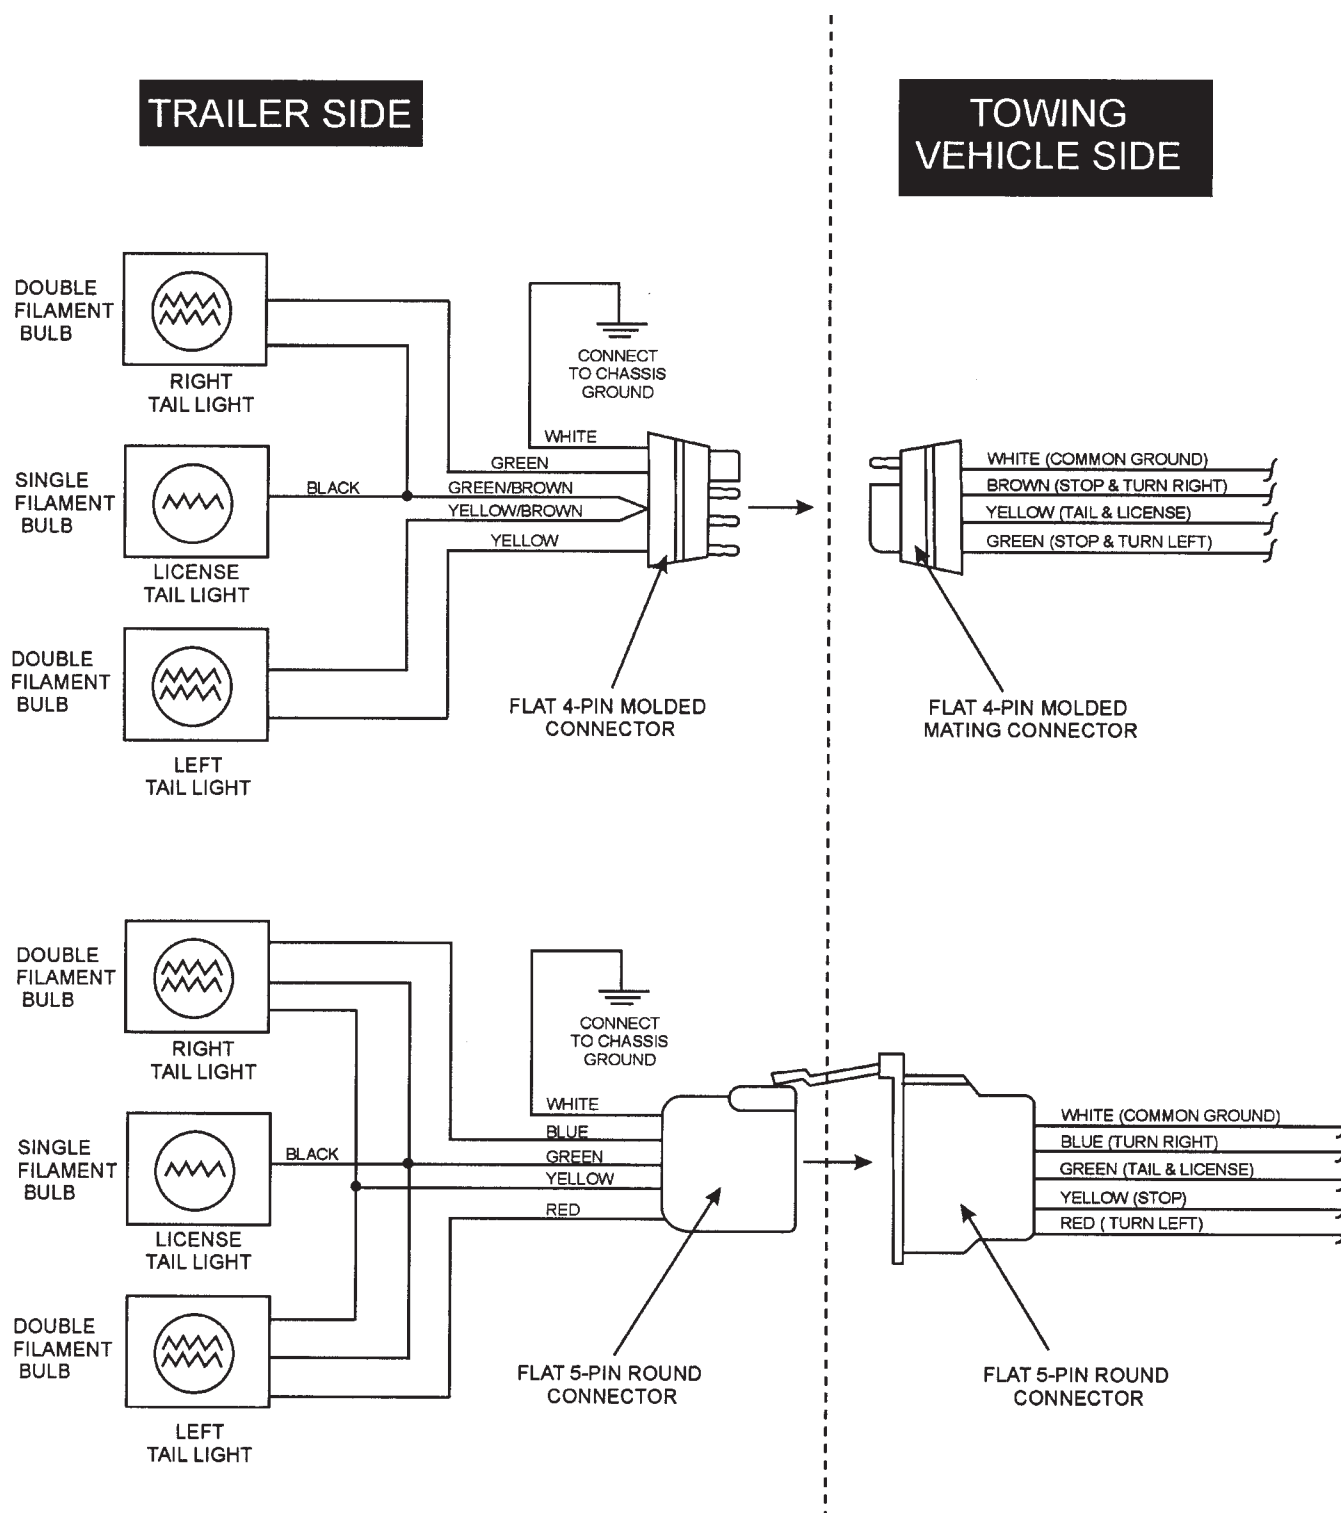

**Figure 5. Lug Nut Tightening Sequence**
2. Torque all lug nuts in sequence. See Figure 5. **DO NOT** torque the wheel lug nuts all the way down. Tighten each lug nut in 3 separate passes as defined by Table 4.